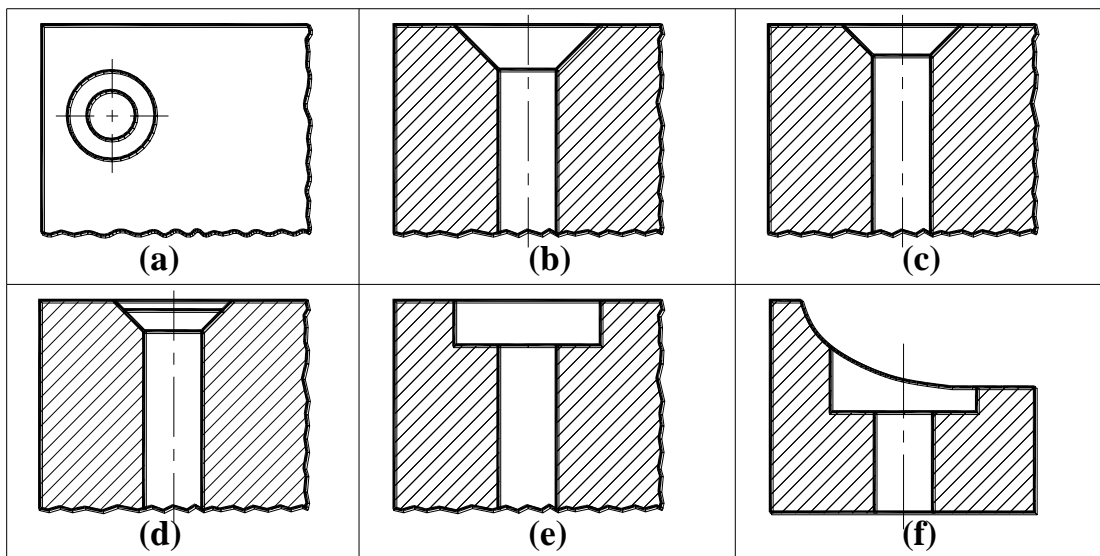

FIGURE T4.4
4. 4. MEASURE AND DIMENSION PROPERLY AS PER DIMENSIONING RULES FOR COUNTER SINKS AND COUNTER BORES GIVEN IN *FIGURE T4.4 (A)* AND *FIGURE T4.4 (F)*.